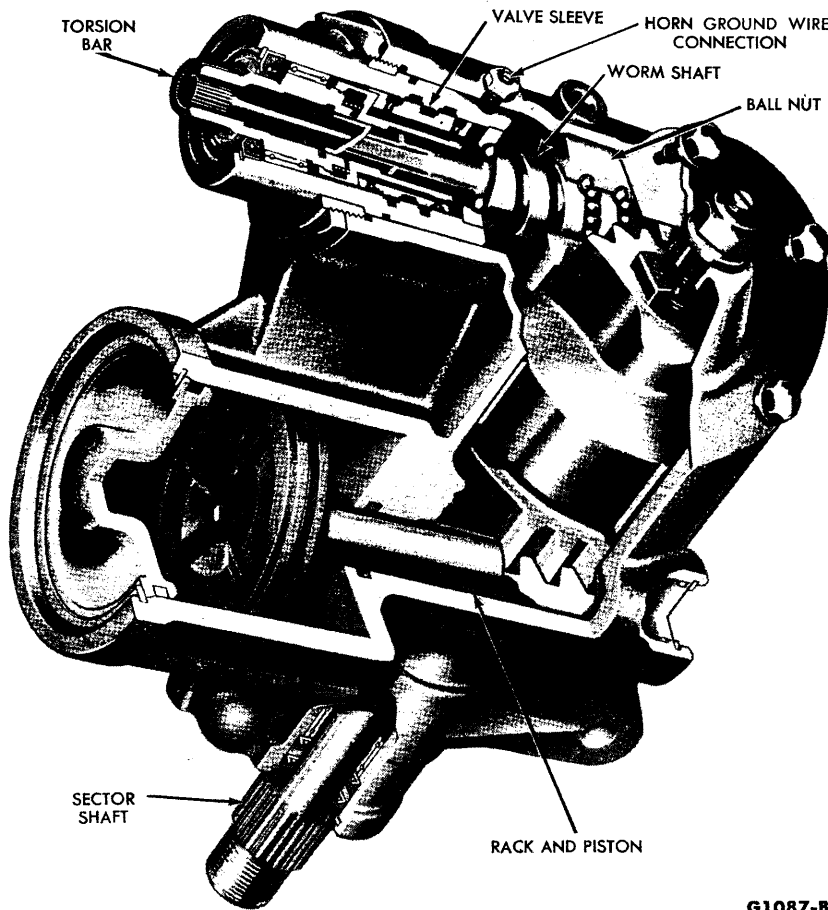

FIG. 2—Power Steering Gear
1. Remove the nut and lock washer from the spring front mounting bolt (Fig. 2).
3. Position the bushings in the front eye of the spring. Assemble the front hanger to the spring eye and install the spring mounting bolt through the hanger, bushings, and spring eye as shown in Fig. 2.
place parts where necessary (Fig. 2).
Inspect the spring clips for worn or damaged threads (Fig. 2). Check the spring clip plate and insulator retainers for distortion.
The torsion-bar type of power steering gear is designed with all components in one housing (Fig. 2). This makes possible internal fluid passages between the valve and cylinder, thus eliminating all external lines and hoses, except the pressure and return hoses between the pump and gear assembly.